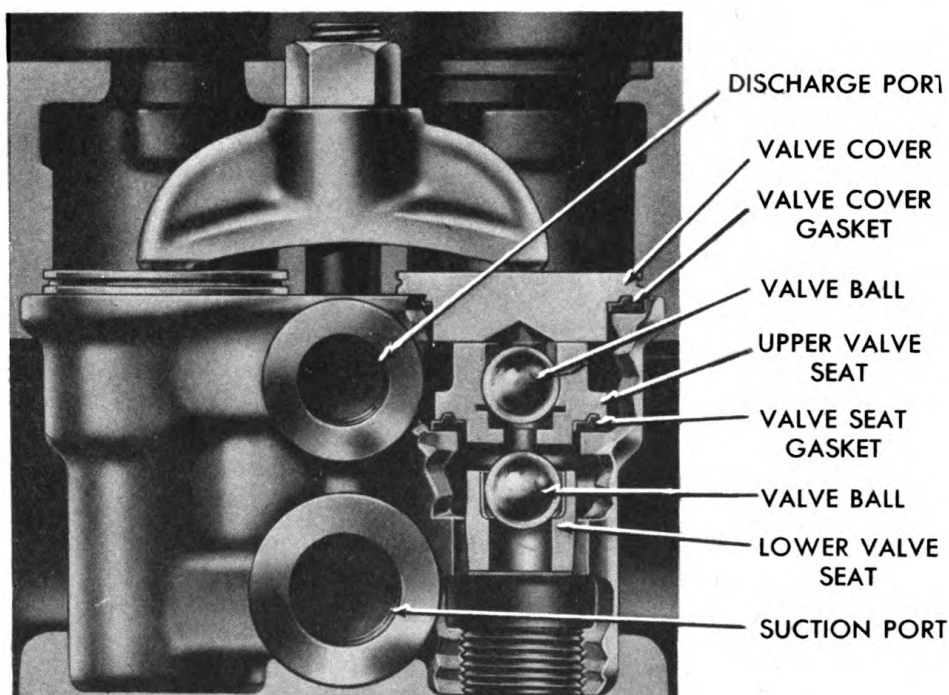

Figure 38—Cross Sectional View of Valve Chamber
- (5) Turn set screws down until shaft is securely locked in position; then tighten set screw lock nuts.
- (6) Place gear guard in position over gears and secure with three retaining cap screws and lock washers.
b. To Clean Valves and Replace Gaskets. (See figure 38.)
- (1) Remove clamp screw, clamp, valve covers, and gaskets.